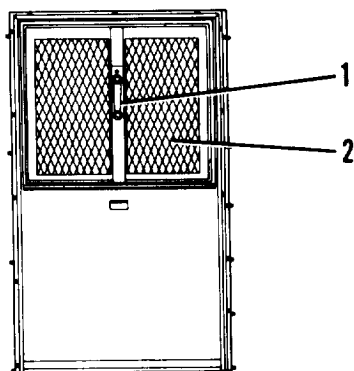

Figure 2-30. Window
- (1) Turn crank (1, figure 2-30) clockwise to open window (2).